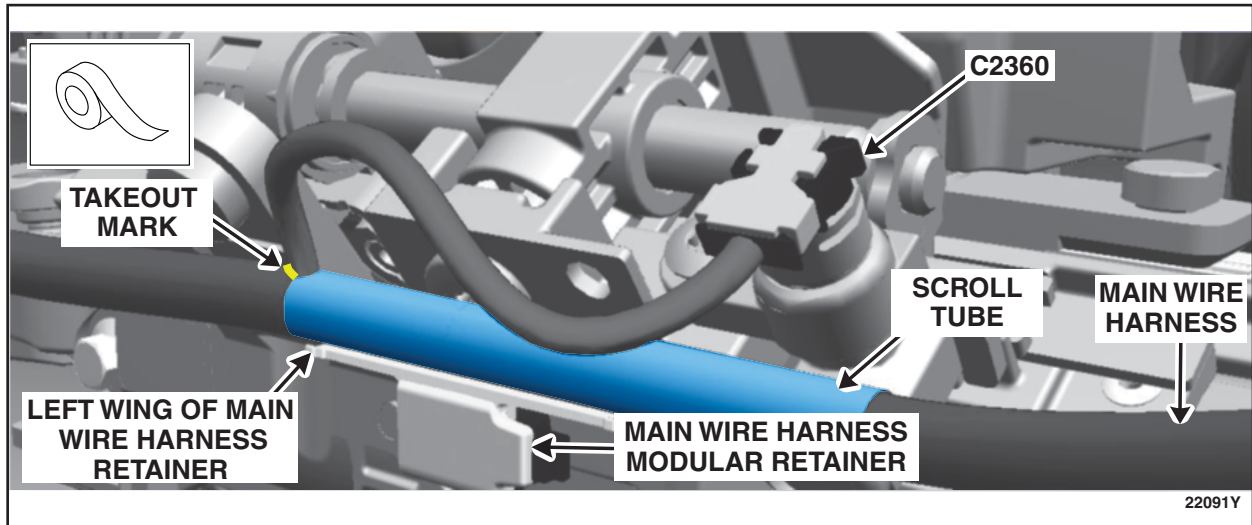

FIGURE 18
17. From the previous mark made on the harness takeout tape, align and wrap the harness takeout to the main wire harness on the **OUTSIDE** of the scroll tube using Coroplast 8510 Wire Harness Felt Tape or equivalent. The splices **MUST** be located on the opposite side of the main wire harness modular retainer. The branch point **MUST** be located on the scroll tube and **CANNOT** be located beyond the left wing of the main wire harness modular retainer. See Figures 18 and 19.